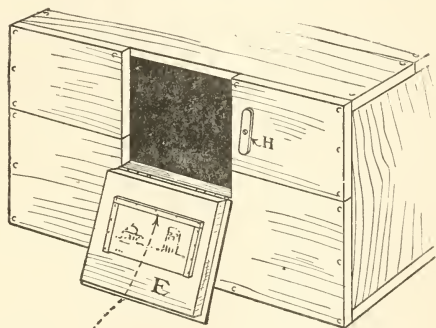

Fig. 345
**Nail the Back Boards in Place**, leaving an opening about 7 inches square directly opposite the lens. Cut a piece of board to fit this opening (*E*, Fig. 345) for